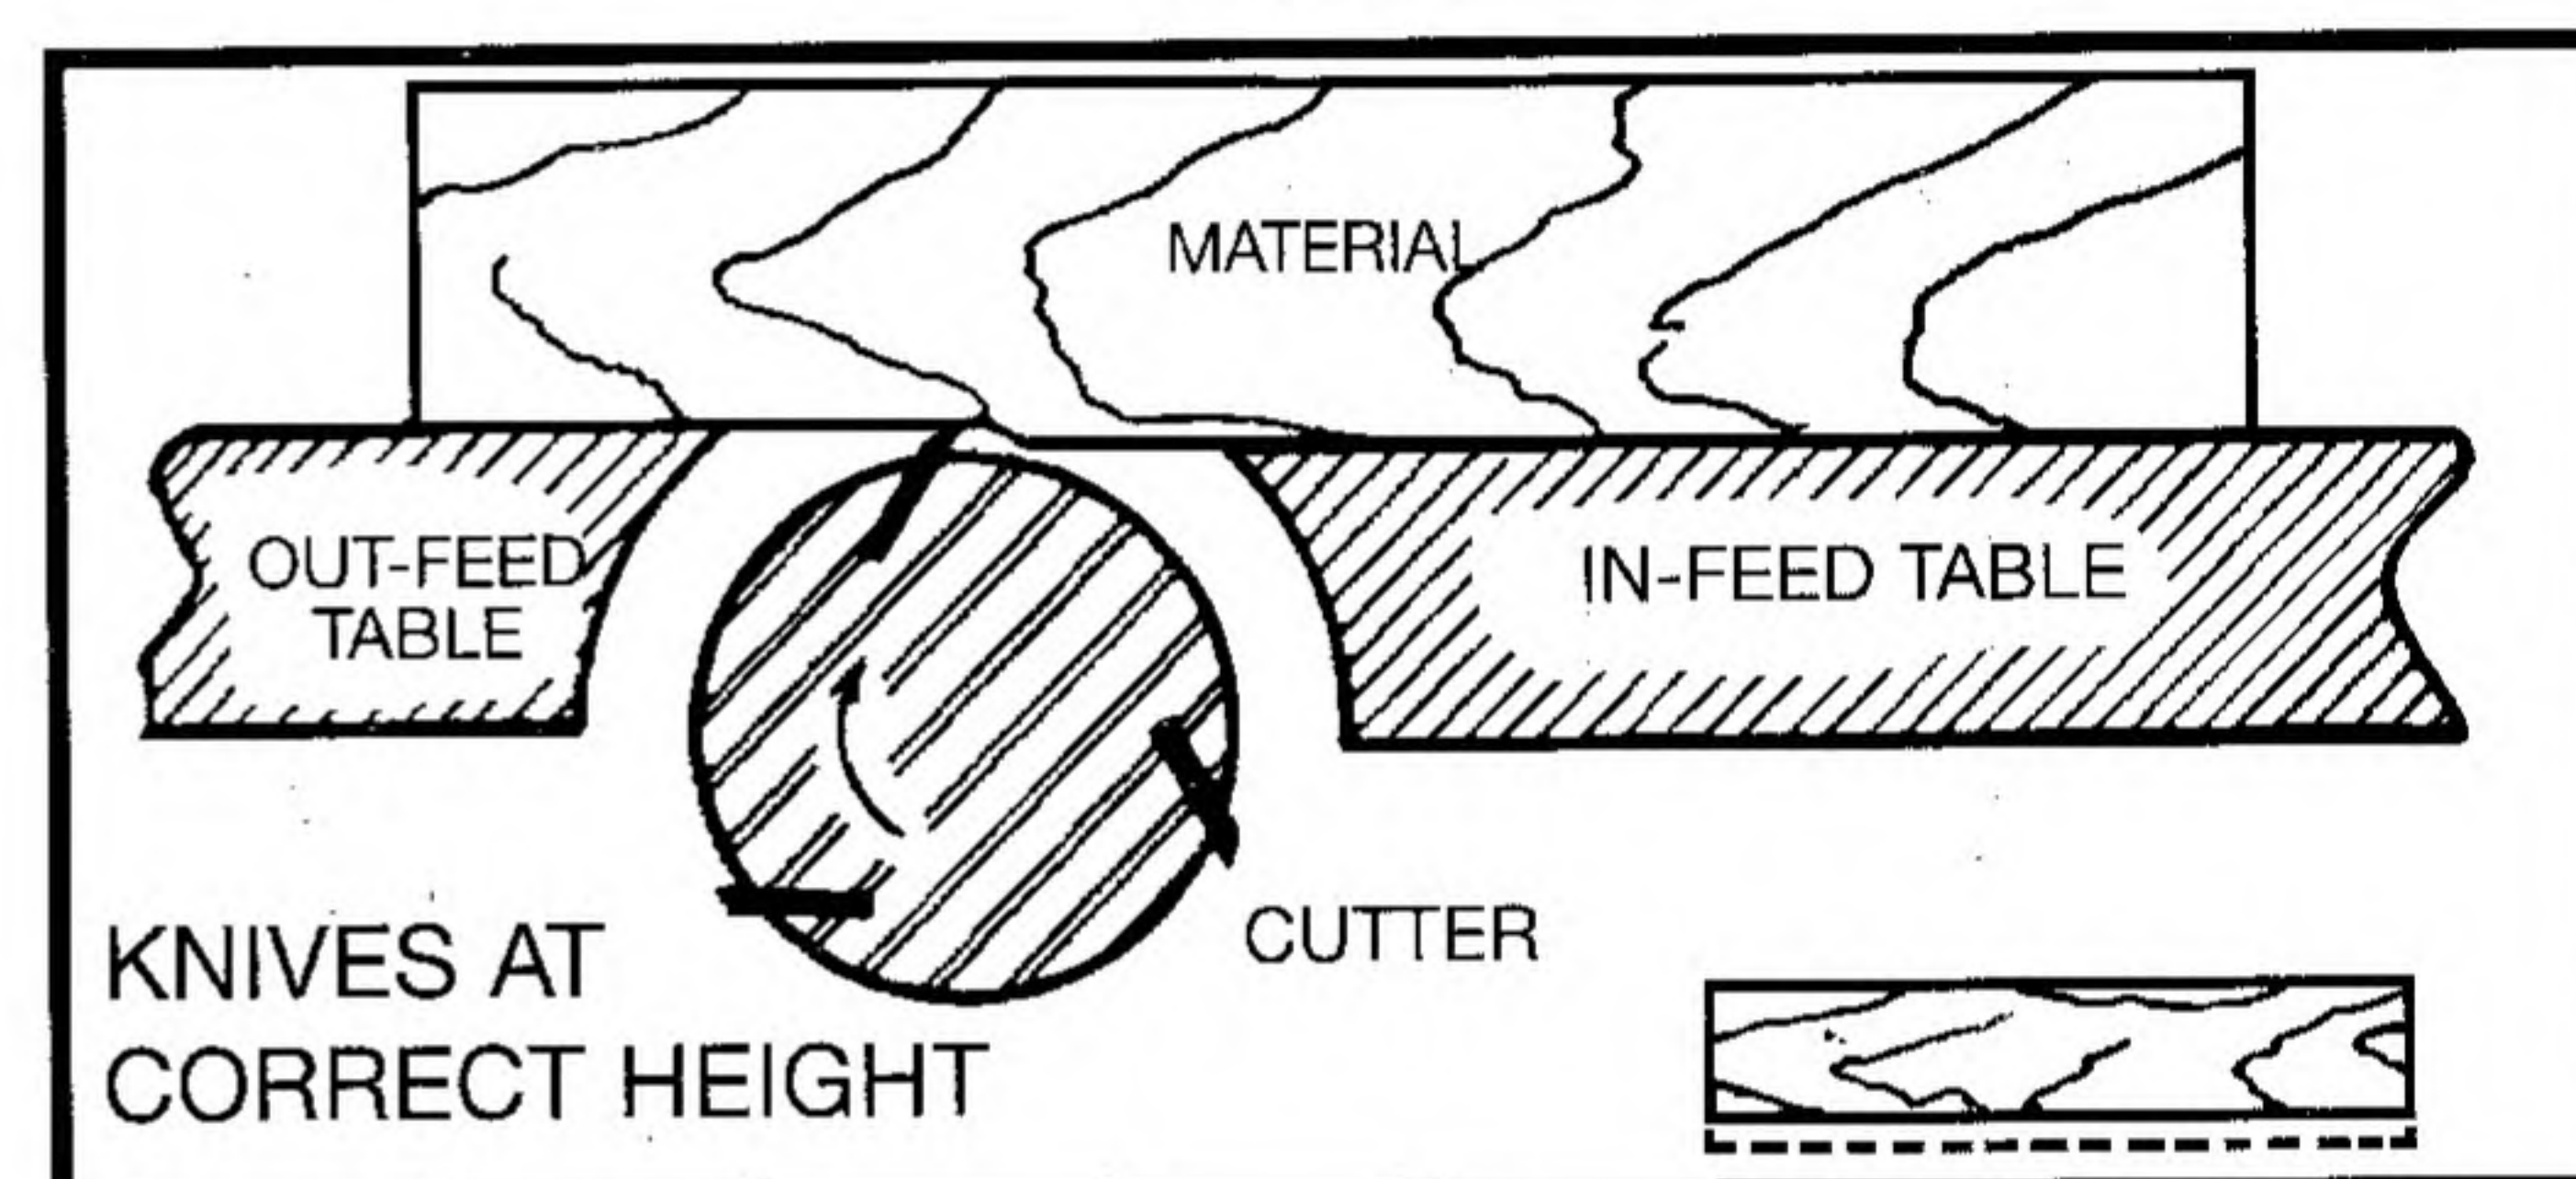

Fig. 34
8. As a final check, run a piece of work slowly over the knives for 6 to 8 inches. The wood should rest firmly on both tables as shown in Fig. 34, with no open spaces under the finished cut.